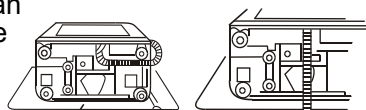

Figure 2
- Put a soft cloth on the ground. Lean the machine down gently with the front surface facing the ground. Unhook the drain hose from the cabinet. Take the hose out of the fixing groove. (See to Figure 2).